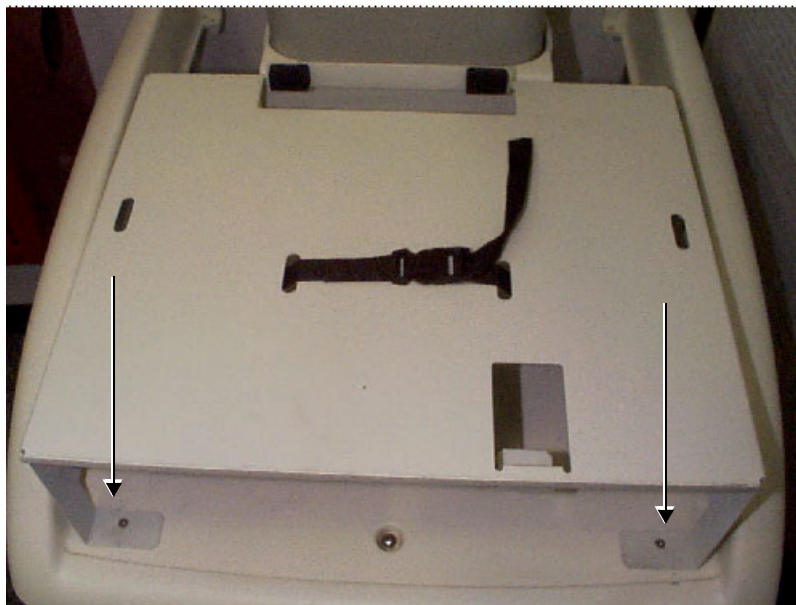

Figure 8-155 Shelf Fastened to Top Cover
- 9) Place the shelf on the top surface, with its two legs facing the front, and the stoppers (located on top of the shelf) facing the far end. Fasten the shelf to the top surface, using the screws removed in step 8, as shown in Figure 8-155.
- 12) Route the two sections of the additional belt (supplied with the Color Printer Shelf), through the second pair of (outer) *right* and *left* slots, as shown in Figure 8-155, above.